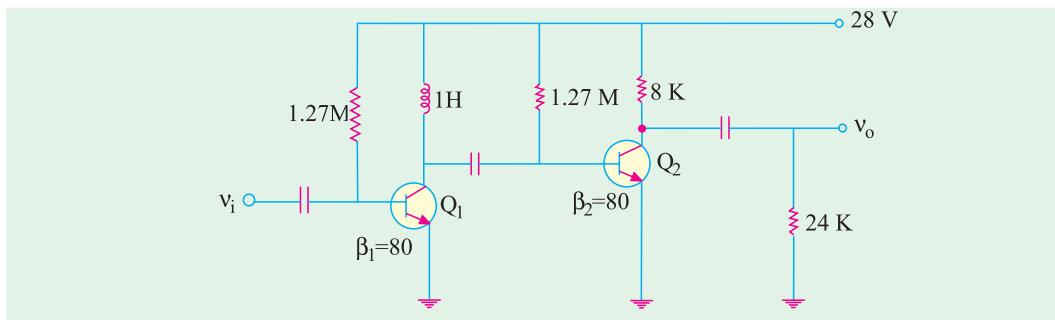

Fig. 61.45
3. Fig. 61.45 shows the circuit of a two-stage impedance-coupled amplifier. Compute the approximate values of